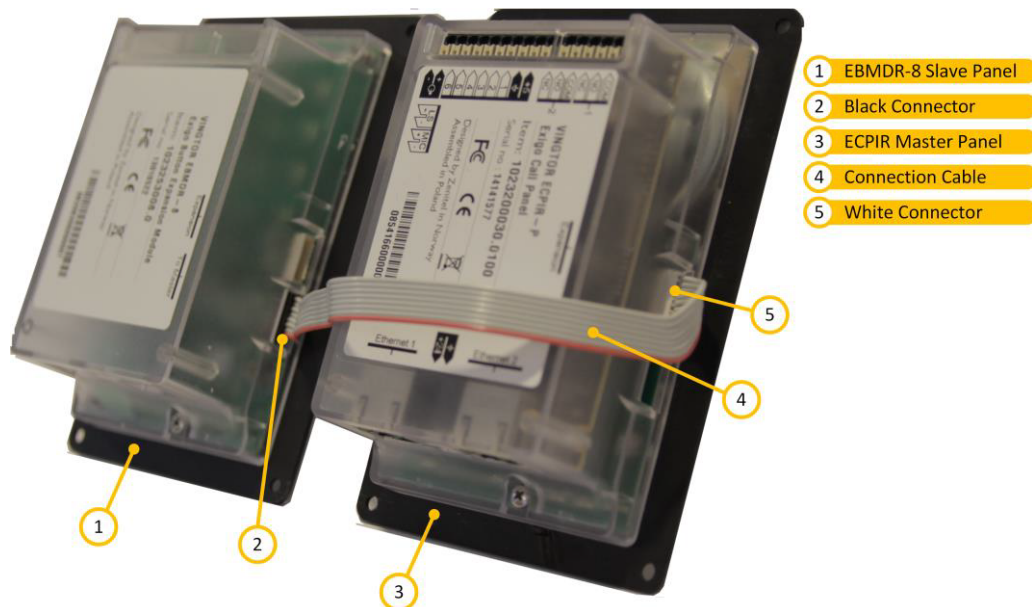

Figure 51: EBMDR-8 Expansion Module Connection
1. Using the small connection cable supplied, connect the EBMDR-8 expansion module to its master panel or preceding module as shown in Figure 51.